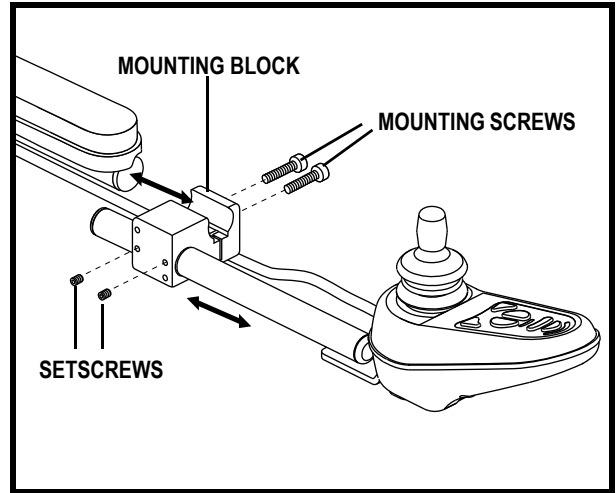

Figure 18. Controller Position (Standard Mounting Block Shown)
4. Loosen the mounting screws in the controller mounting block. See figure 18.
1. Loosen the setscrews in the mounting block. See figure 18 or 19.